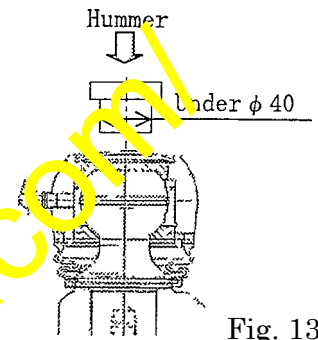

Fig. 13
- Hit the ball stud until the tip end of the ball stud comes out to the upper surface of the housing by use of a hammer. (Refer to Fig. 13, 15-1 and 16-1.)